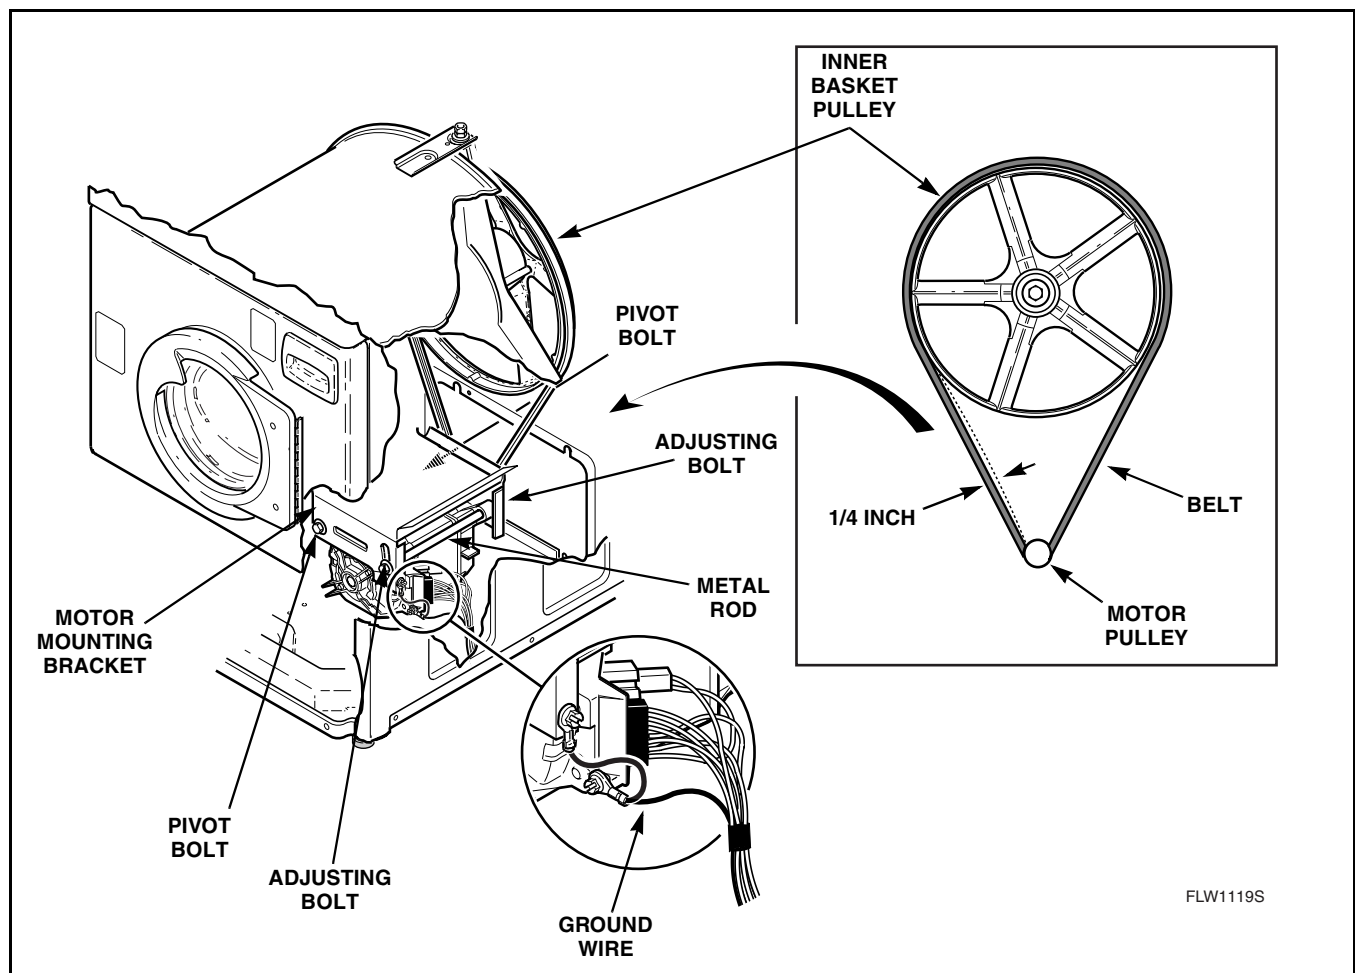

Figure 23
- (1) Working through the access door opening, place a locking pliers on the metal rod and loosen the two adjusting bolts. Refer to *Figure 23*. Repeat procedure to loosen the two pivot bolts. Refer to *Figure 23*.
- (2) Pull down on motor to increase belt tension. Use a Burroughs belt gauge to obtain proper tension. Proper belt tension is obtained when belt can be deflected approximately 1/4 inch (6.35 mm) from normal position when moderate pressure 50 to 60 pounds (22.68 to 27.22 Kg) is applied to a point midway between pulleys. Refer to *Figure 23*.
- (3) After proper belt tension has been obtained, tighten belt adjusting bolts firmly, then tighten pivot bolts. Refer to *Figure 23*.